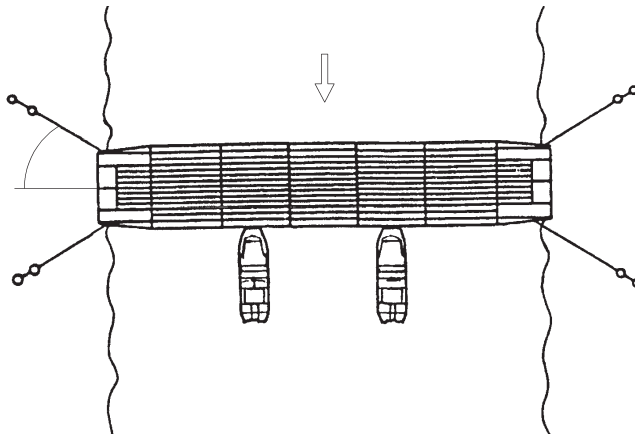

Figure 3. Typical Short-Term Anchoring.
- (3) If transporters are not available for temporary end span anchorage, connect one approach guy to the first load receiving pin on each side of the ramp bay at both ends of the bridge. Secure the opposite end of each approach guy to a hold-fast post at approximately a 45-degree angle to the bridge centerline. (Refer to figure 3.) The hold-fast posts should be located above high-water level to prevent washout.